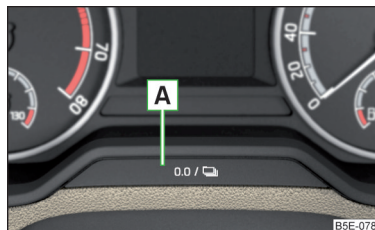

Fig. 47
- Press and hold the button **A** » Fig. 47 until the **Service** menu item is shown in the display.